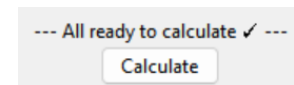

Figure 4: Message that you can perform calculations.
If you completed everything correctly, at the top of the section “**Results**”, a message will be displayed to enable the option *Calculate*, like in Figure 4. Once you press this button, you will have the results of interest with their units of measurement, in the mentioned section before: the radius (R_o), the Bond number (Bo), the relation Ds/D_e (σ), the interfacial tension (γ), the Worthington number (Wo), the Neumann number (Ne) and the real volume of the drop (V). For more information about this data you can visit the repository. If you want perform a new calculation, you can press the button *New calculation*. y se reiniciará el programa. El resultado final se puede ver en la Figura 5.